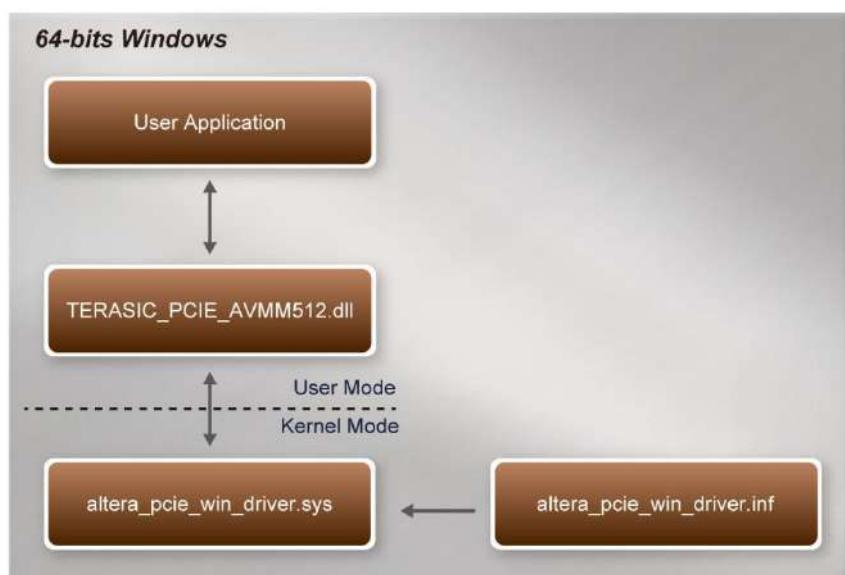

Figure 7-2 PCI Express Software Stack
**Figure 7-2** shows the software stack for the PCI Express application software on 64-bit Windows. The PCIe library module TERASIC\_PCIE\_AVMM512.dll provides DMA and direct I/O access allowing user application program to communicate with FPGA. Users can develop their applications based on this DLL. The altera\_pcie\_win\_driver.sys kernel driver is provided by Altera.